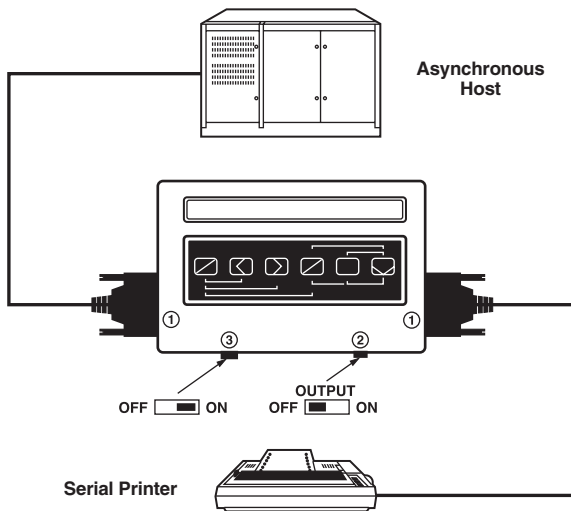
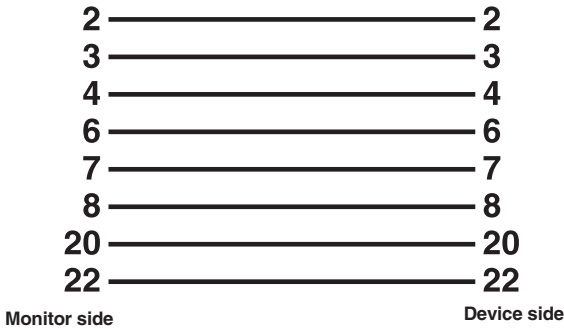

Figure Q-1. The 232 Monitor Basic.
Figure Q-2. Monitor cable pinning.
1. Attach one or two data line cables to the monitor. The Monitor registers activity on pins 2, 3, 4, 6, 7, 8, 20, and 22, and the data cable you use should provide some of all of those pins. Figure Q-1 shows a two-cable configuration, and Figure Q-2 shows the recommended pinning for your cable.